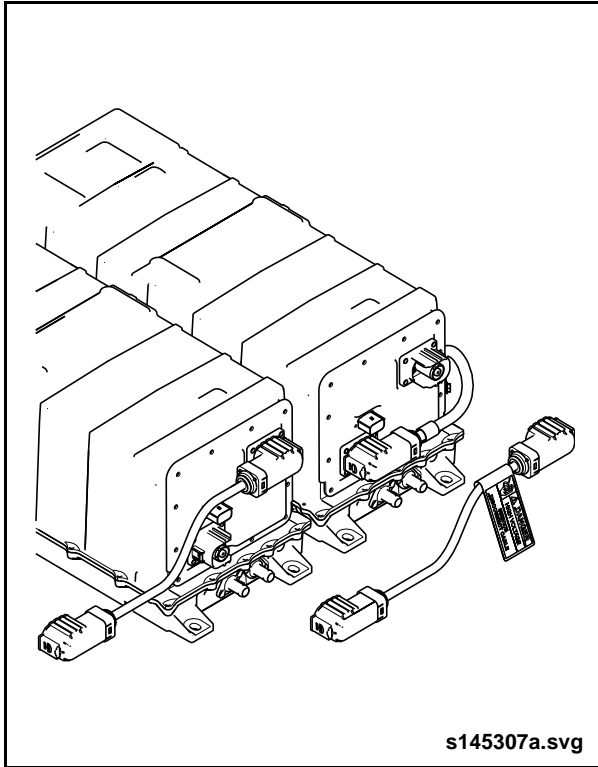

Fig. 13: Mid-String Cable
8. Disconnect the mid-string cable for all battery strings located inside the ESS compartment. See "Fig. 13: Mid-String Cable" on page 11.